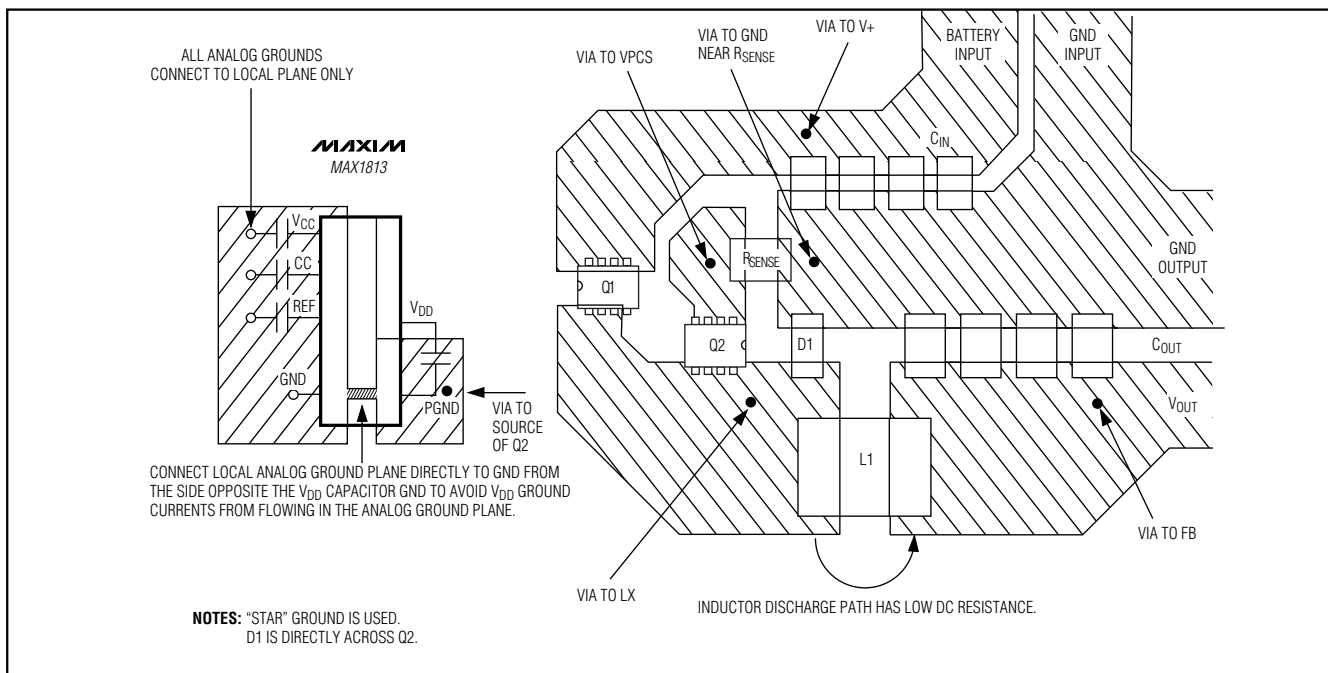

Figure 19. Power-Stage PC Board Layout Example
Careful PC board layout is critical to achieve low switching losses and clean, stable operation. The switching power stage requires particular attention (Figure 19). If possible, mount all of the power components on the top side of the board, with their ground terminals flush against one another. Follow these guidelines for good PC board layout:
- 4) Make the DC-DC controller ground connections as shown in Figure 19. This diagram can be viewed as having three separate ground planes: output ground, where all the high-power components go; the power ground plane, where the PGND pin and V_{DD} bypass capacitor go; and an analog ground